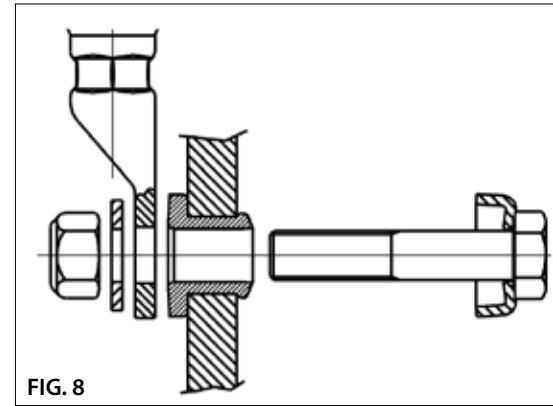

FIG. 8
3.1) Insert the special bolt (with recessed head) through the copper bush. The screw thread should protrude from the flange side of the bush; the recessed bolt head will tighten onto the web of the rail and not onto the bush (Fig. 8).